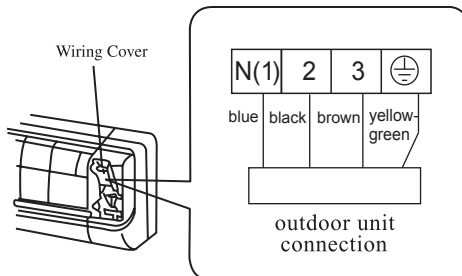

Fig.6
2. Remove the wiring cover Fig6, and then take off wire clamp.